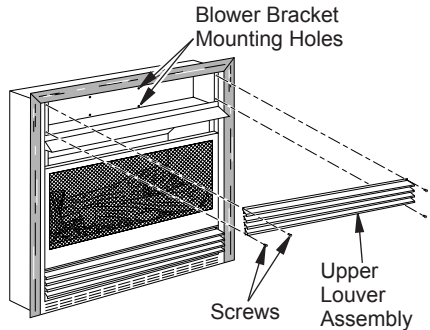
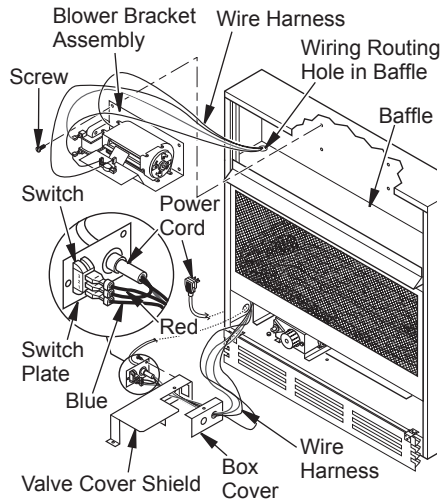
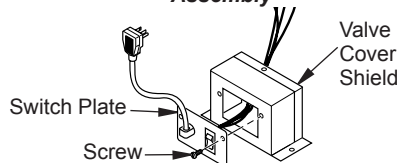

Figure 12 - Removing Upper Louver Assembly
Figure 14 - Installing Blower Bracket Assembly
Figure 15 - Installing Switch Plate to Valve Cover Shield
Built-in installation of this fireplace involves installing fireplace into a framed-in enclosure. This makes the front of fireplace flush with wall. An optional brass trim kit accessory is available (see *Accessories*, page 27). Brass trim will extend past sides of fireplace approximately 1/2". This will cover the rough edges of the wall opening. If installing a built-in mantel above the fireplace, you must follow the clearances shown in Figure 12, page 12. Follow the instructions below to install the fireplace in this manner. **Note:** Your fireplace is designed to be used in zero clearance installations. Wall or framing material can be placed directly against any exterior surface on the rear, sides or top of your fireplace.
2. Remove 4 screws from louver assembly (see Figure 12). Save these screws.
3. Note the wire locations on back of AUTO/OFF/ON switch. The terminals on back of switch are numbered 1, 2 and 3. Carefully remove red wire from terminal 1 and blue wire from terminal 3. Black wire can remain on middle terminal 2 (see Figure 14).
5. In top of the heater cabinet, locate the four mounting holes on the outer casing. Align these four holes with those on the blower bracket assembly. Attach blower bracket assembly to the outer casing with 4 #10 screws (see Figure 14).
6. Route the wire harness through the hole in left side of baffle. Pull wire harness through lower opening above where the valve shield was removed. (see Figure 14).
7. Insert the 4 wire harness into one of the round holes in the rear of the valve cover shield and through the rectangular hole in the front of shield (see Figure 14).
9. Install the switch plate on the valve cover shield with 2 #10 screws provided (see Figure 15). Reinstall the valve cover shield. Route power cord out of the cabinet by inserting it through the bushing on the outer casing (see Figure 14). Plug fan kit into 120-Volt grounded power supply and test operation. *Note:* When switch is in the AUTO position, the fan will start after the heater has run for a few moments. The fan will continue to run for several moments after the heater has been turned off. When switch is in the ON position, the fan will run until turned to OFF. Reinstall upper louver assembly and hood if previously removed, (see Figure 12, page 12). Close lower louver door.